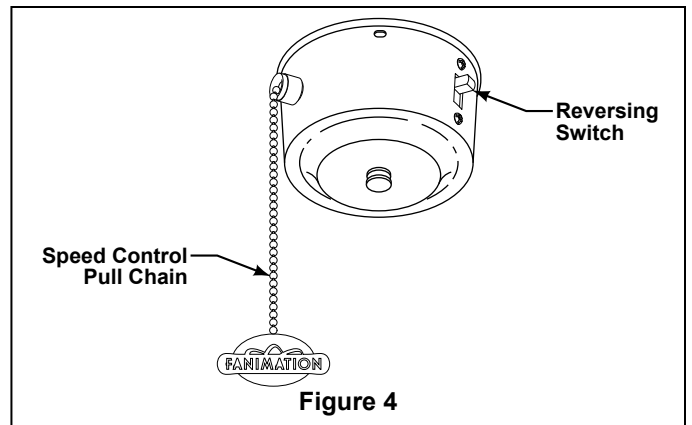

Figure 4
2. Check the operation of the fan by gently pulling on the pull chain switch. (Figure 4)